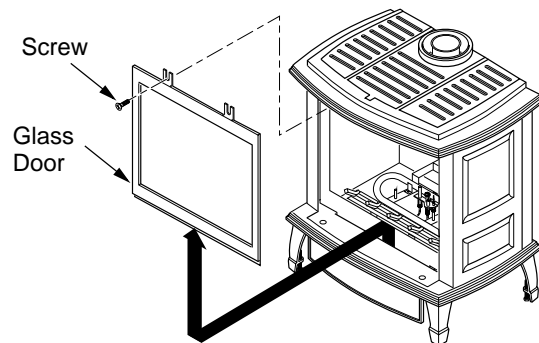

Figure 54 - Removing Glass Door from Burner System
- Remove the screws from the 2 tabs at the top of the glass door while holding door securely keeping it from falling forward (see Figure 54).
- Grasp door by both sides and ease it upward off of the lower bracket (see Figure 54).